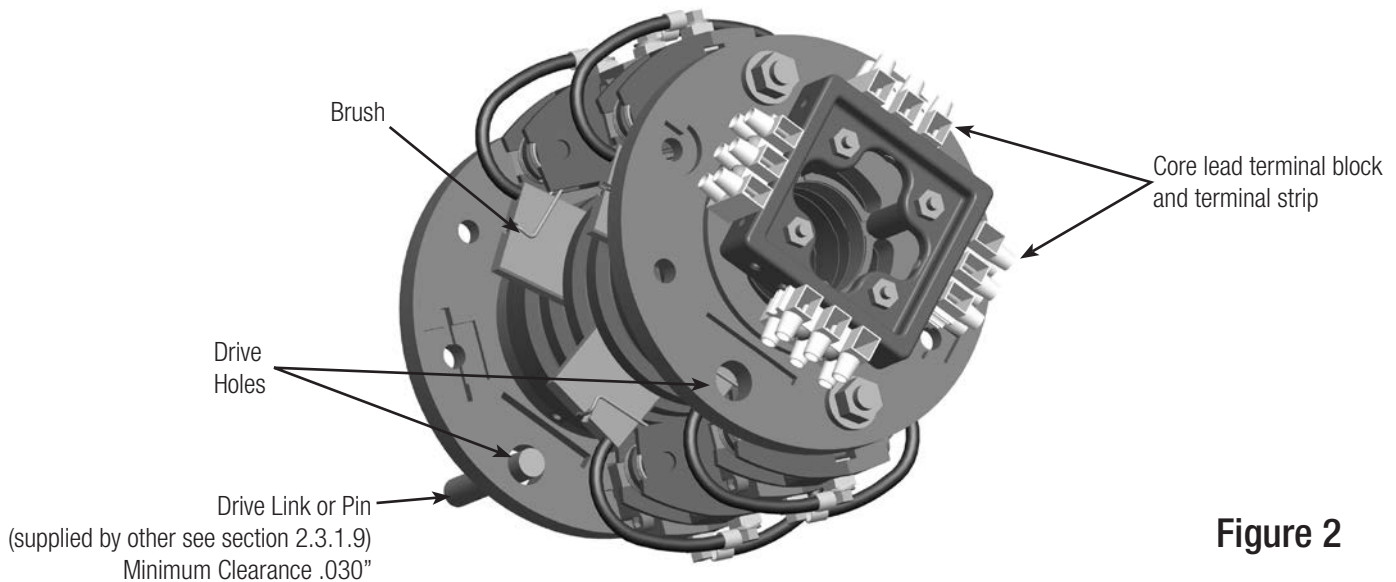

Figure 2
2.3.1.5 The brush carriage on a standard slip ring assembly has drive holes in the outboard bearings (See Figure 2).